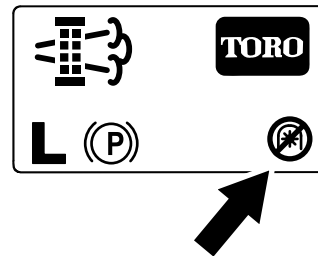

Figure 50
**Note:** The Home screen displays the PTO disabled Icon (Figure 50).
**Note:** The Home screen displays the PTO disabled icon; refer to Figure 50 in Parked Regeneration Messages \(page 37\).